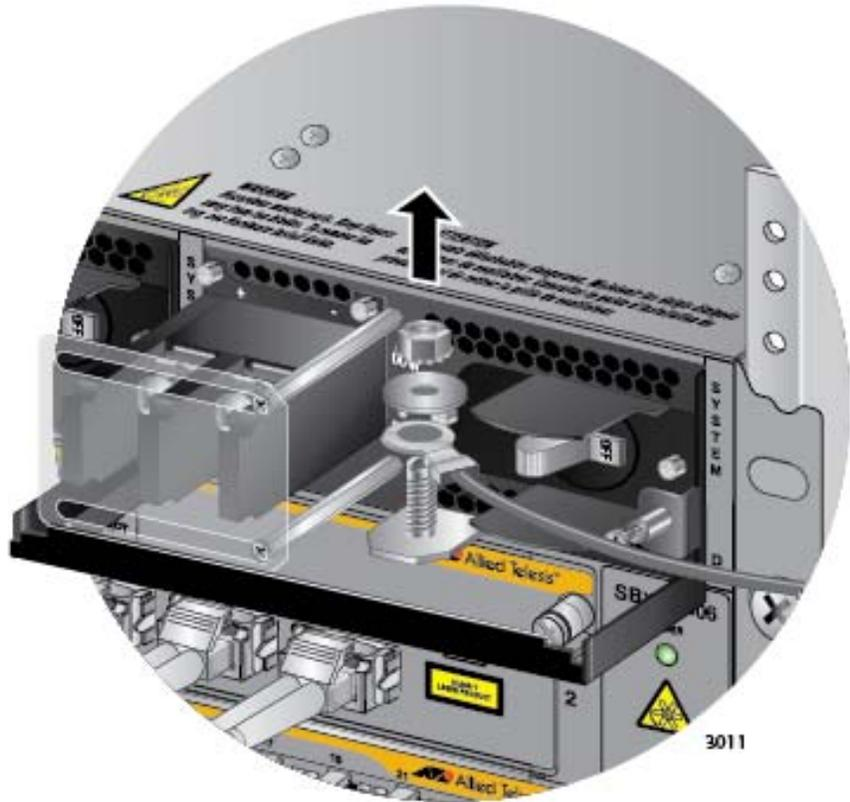

Figure 148. Removing the Grounding Wire
9. Use an 8 mm wrench to remove the grounding wire from the grounding post. Refer to Figure 148 on page 217.